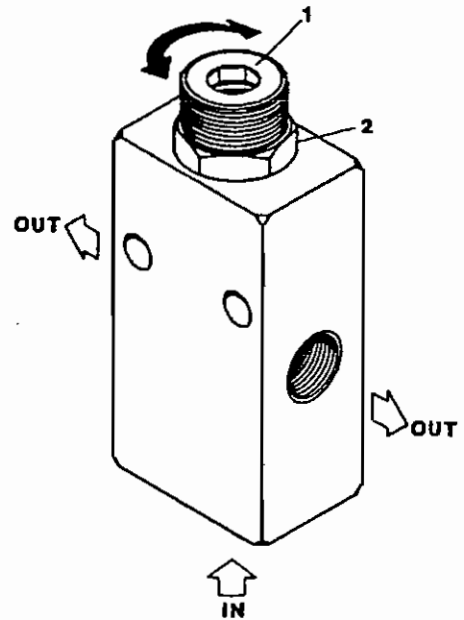

Fig. 8.2 Pressure maintaining valve
The pressure maintaining valve is adjusted at the factory to the required pressure and normally does not require regular maintenance or readjustment. In case readjustment becomes necessary, loosen the locking ring (2, fig. 8.2). Set the adjusting screw (1) to the required pressure using an appropriate hex type wrench.